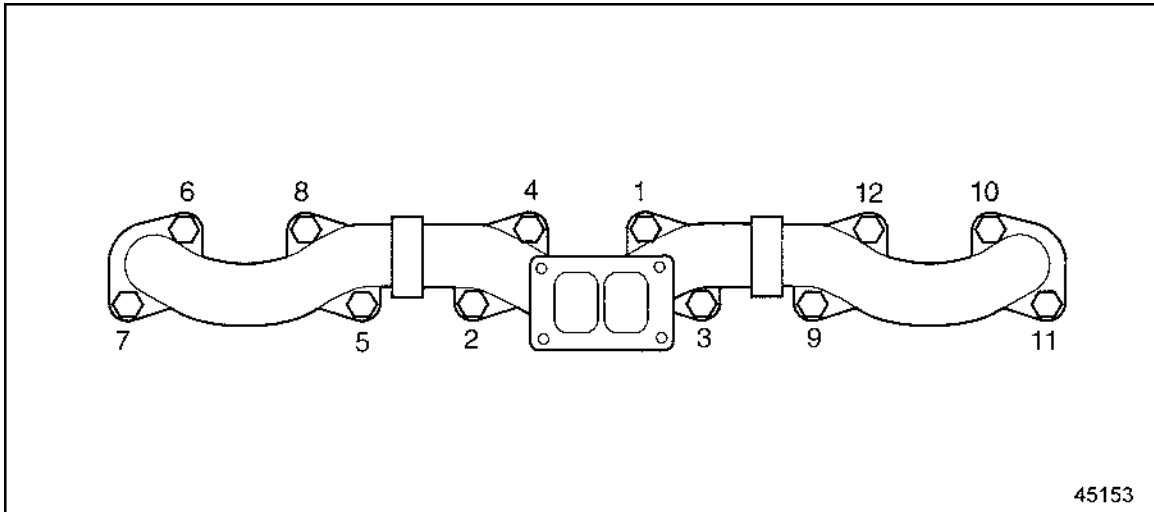

Figure 2 Torque Sequence for Exhaust Manifolds
3. Install six exhaust manifold guide studs, J 36107 (four guide studs per set), into the cylinder head in locations 6, 8, 4, 1, 9, and 11 to hold the three exhaust manifold gaskets in the correct position and facilitate manifold installation. See Figure 2.
6. Install and slightly tighten the mounting bolts and spacers in locations 7, 5, 2, 3, 12, and 10. The load should be enough to hold the exhaust manifold assembly in place when the guide studs are removed. See Figure 2.
8. Install the remaining manifold bolts and spacers to the holes from which the studs were removed. Torque all bolts to 58-73 N·m (43-54 lb·ft) See Figure 2 for torque sequence.